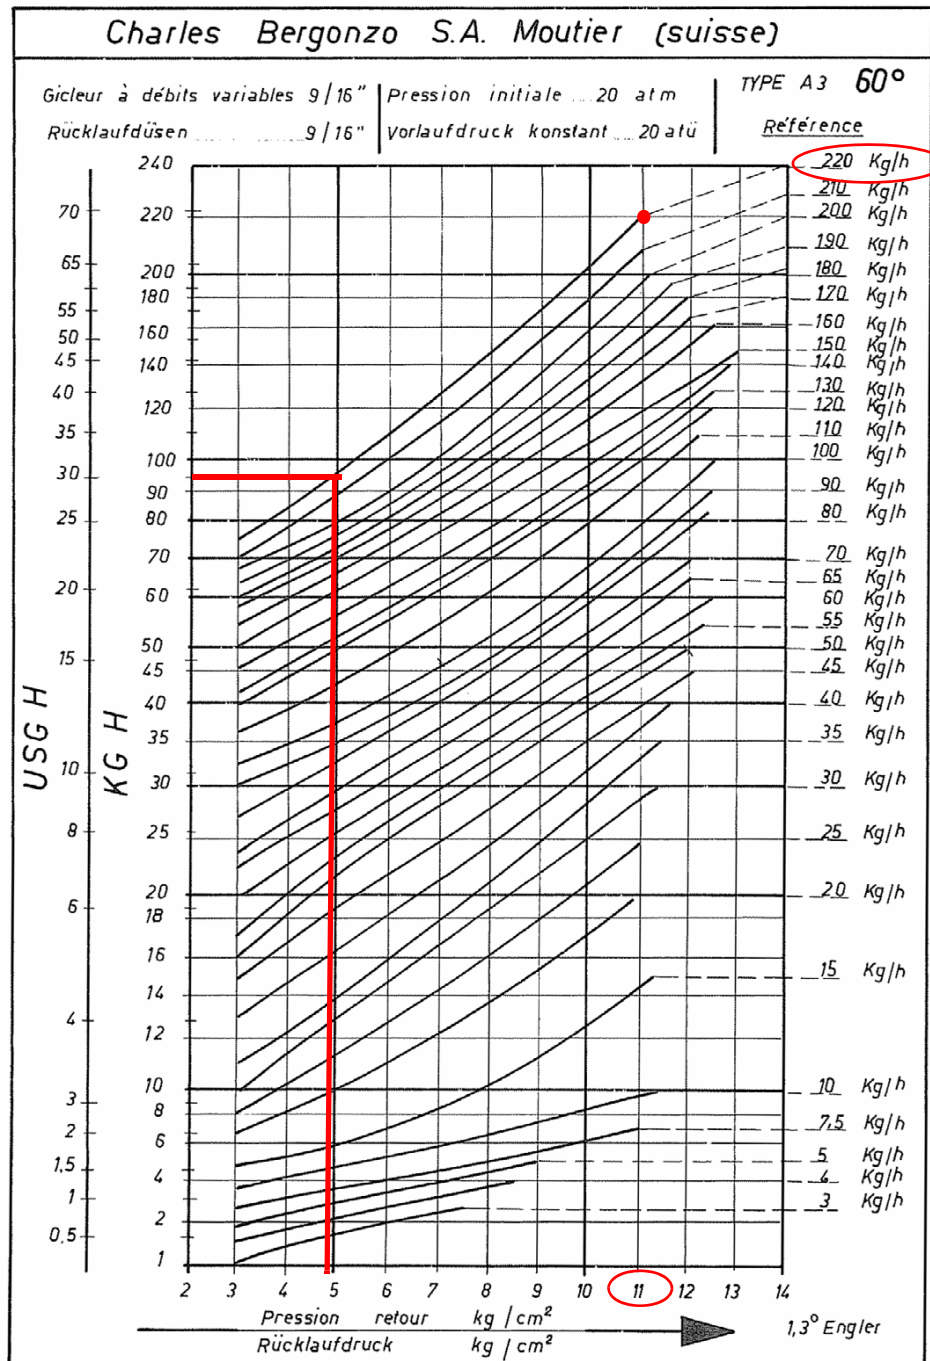

Fig. 15
The light oil flow rate can be adjusted choosing a by-pass nozzle that suits the boiler/utilisation output and setting the delivery and return pressure values according to the ones quoted on the chart below and the diagram on Fig. 15-Fig. 32 (as far as reading the pressure values, see next paragraphs).
**Example (Bergonzo):** if a 220kg/h flow rate BERGONZO nozzle is provided, set the return pressure at 11bar, supply at 20bar on the delivery to get a 220kg/h flow rate. If the return pressure needed is 5bar, instead, act on the V adjusting screw on the pressure governor (see chapter on page 32). The flow rate will then be about 95kg/h (see the example showed on the Bergonzo diagram-Fig. 15).